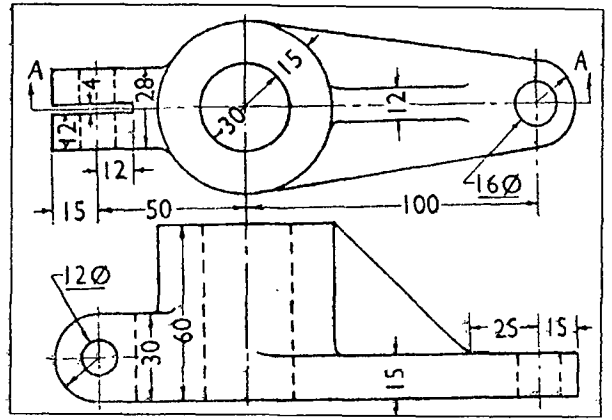

Fig 2
- 12.b) Design a drilling jig for use when drilling the $\phi 16$ and $\phi 12$ holes in the component shown in Fig. 2. Assume that the base has been machined.